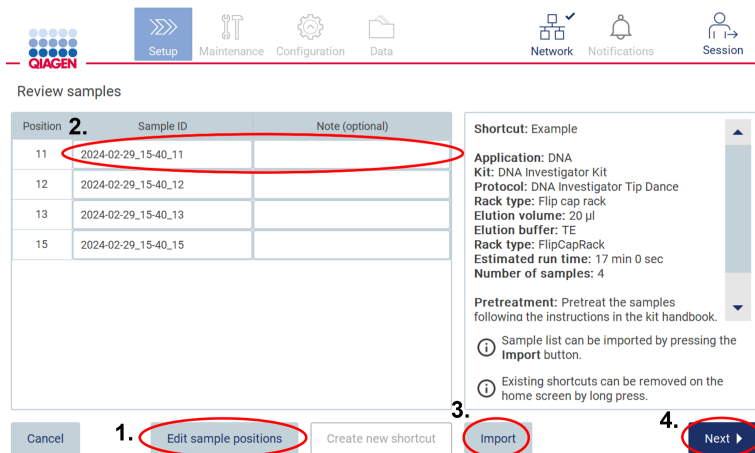

Figure 119. Review samples screen. (1) Edit sample positions, (2) Edit Sample IDs and add notes, (3) Import sample list, and (4) Next button to proceed.
2. The Review samples screen will open (Figure 119).
3. **Optional:** Edit the sample positions by tapping on the **Edit sample positions** button (option 1 in Figure 119).
4. **Optional:** Edit sample ID and notes by tapping on the sample IDs or corresponding notes (option 2 in Figure 119).
5. **Optional:** Import a sample list by tapping the import button (option 3 in Figure 119; further described in Section 5.4.8).
6. Proceed by tapping the **Next** button (option 4 in Figure 119).